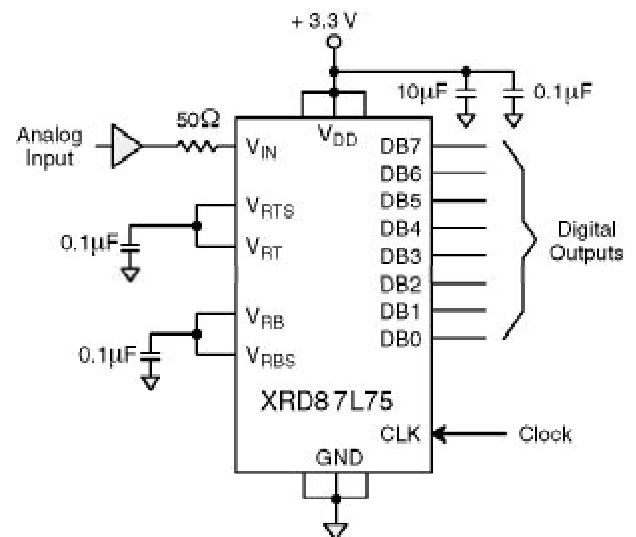

Figure 5. Typical Circuit Connections
5. See V_{IN} input equivalent circuit (Figure 5). Switched capacitor analog input requires driver with low output resistance.
The reference can be biased internally by shorting V_{RT} to V_{RTS} and V_{RB} to V_{RBS} . This will generate $0.4V$ at V_{RB} and $1.72V$ at V_{RT} (see Figure 5.).